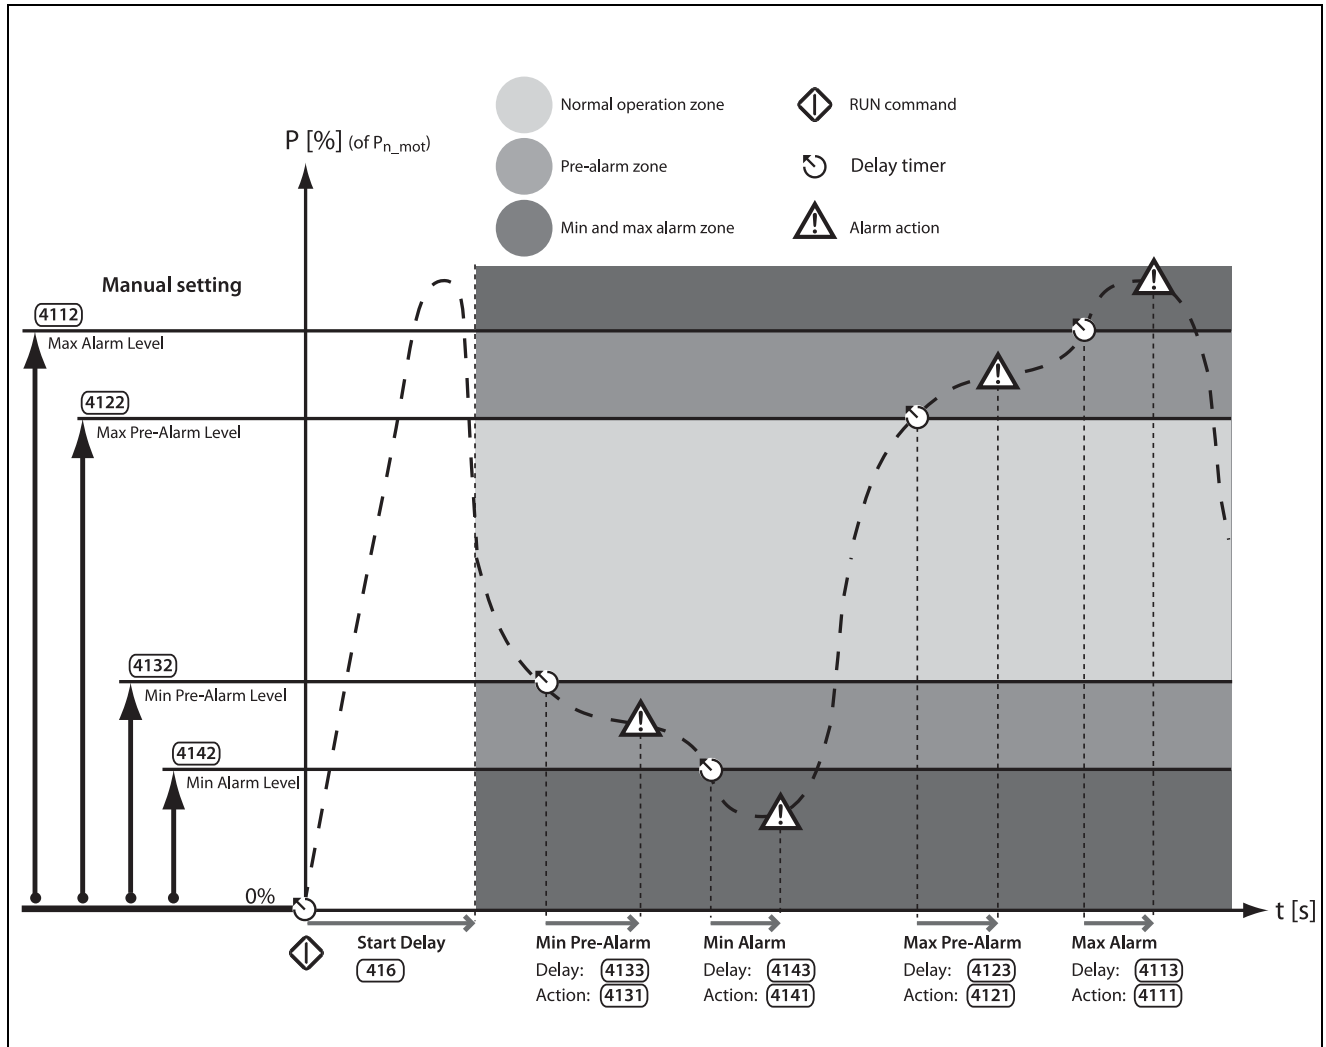

Fig. 40 Manually set load monitor alarm levels.
1. Manual configuration, in which up to four “Alarm Levels” are set directly (Fig. 40).
See Fig. 40. For the manual load monitor settings, the “Alarm Levels” [411] - [414] are set directly as a percentage of the nominal motor power (menu [223]). The actual shaft power is displayed in brackets together with the Alarm Level value to facilitate setting. See example on the right.